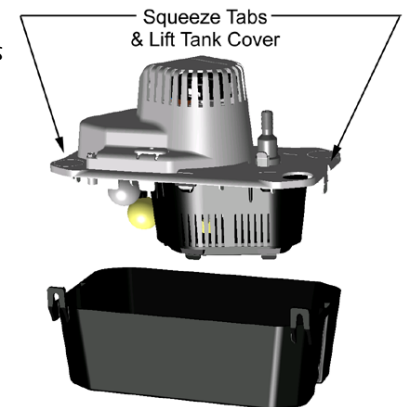

Figure 6
2. Hold the pump with both hands and squeeze the snaps on the ends with your thumbs to release the lid. Remove top portion of pump. (Figure 6)